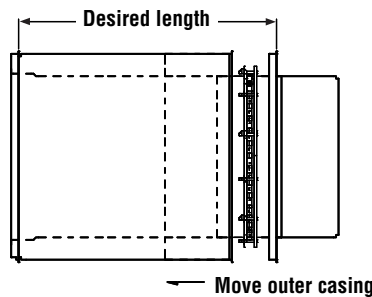

Figure 53 - Adjustable length, INSTALLATION STEP B
- Move up the sliding section of the outer wall to access inner wall. See **Figure 53**.